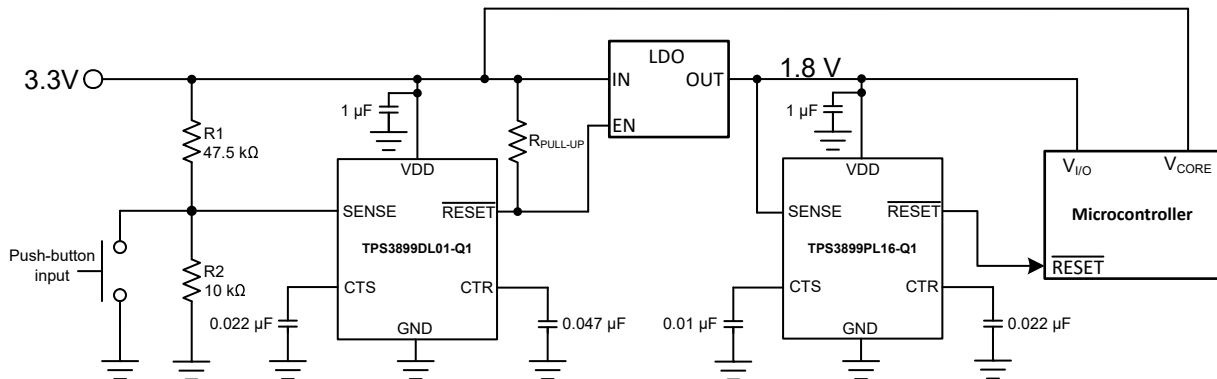

图 8-1. TPS3899-Q1 Voltage Rail Monitor and Power-Up Sequencer Design Block Diagram
A typical application for the TPS3899-Q1 is voltage rail monitoring and power-up sequencing as shown in 图 8-1. The TPS3899-Q1 can be used to monitor any rail above 0.8V. In this design application, two TPS3899-Q1 devices monitor two separate voltage rails and sequences the rails upon power-up. The TPS3899DL01-Q1 is used to monitor the 3.3V main power rail and the TPS3899PL16-Q1 is used to monitor the 1.8V rail provided by the LDO for other system peripherals. The  $\overline{\text{RESET}}$  output of the TPS3899DL01-Q1 is connected to the enable (EN) input of the LDO with an external pull-up resistor  $R_{\text{PULL-UP}}$  to the 3.3V power rail. The  $\overline{\text{RESET}}$  output of the TPS3899PL16-Q1 is connected to the  $\overline{\text{RESET}}$  input of the microcontroller. A reset event is initiated on either voltage supervisor when the VDD voltage is less than  $V_{\text{IT-}}$ , falling threshold voltage. For a system reset event, a push-button input is placed at the SENSE pin of the TPS3899DL01-Q1.